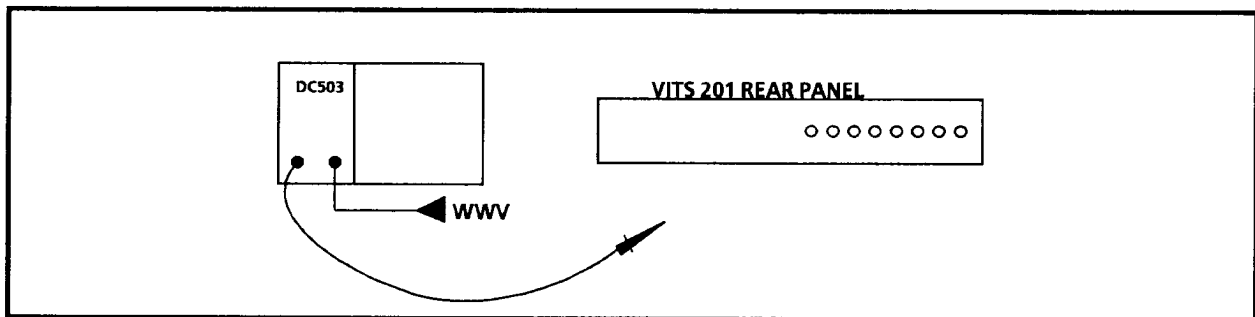

Figure 6-1. Setup to check subcarrier frequency.
- a. Connect a X1 probe to the Channel A input of the DC503A, and connect a reference, such as WWV, to the Channel B input, as shown in Figure 6-1.